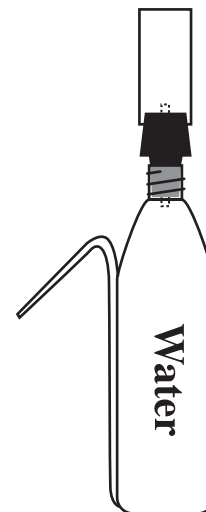

Figure 1.
3. Place the assembly on the opening of the wash bottle (see Figure 1).